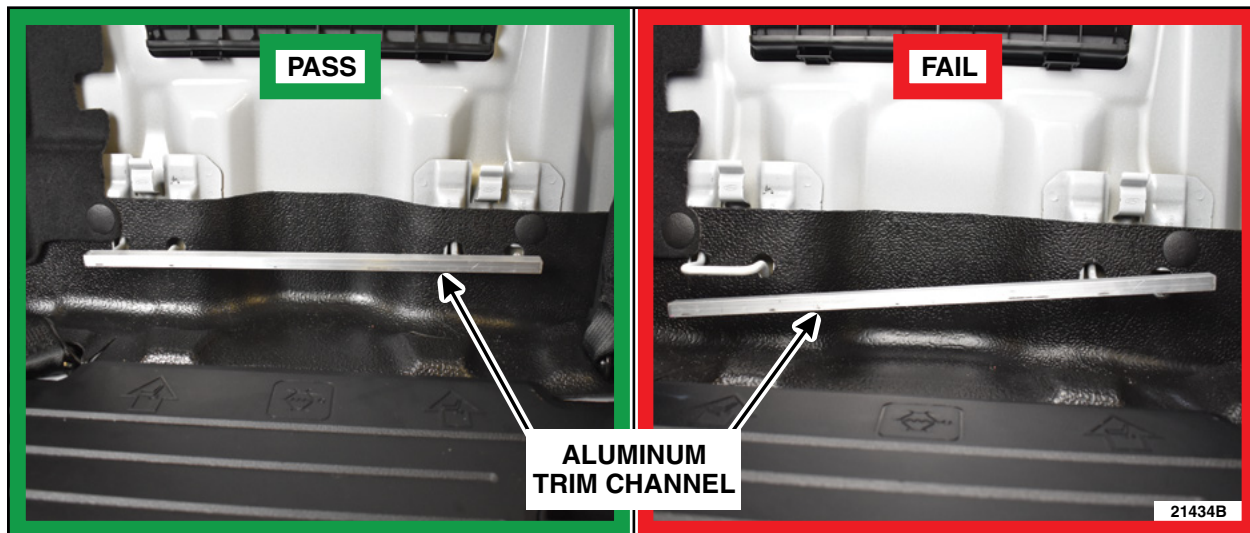

FIGURE 2
2. Remove both the Right Hand (RH) and the Left Hand (LH) rear seat cushions. Please follow the Workshop Manual (WSM) procedures in Section 501-10B.
3. On both sides of the vehicle, place the 1/4 inch (6.35 mm) aluminum trim channel over the child restraint anchors. If the aluminum trim channel fits over both of the child restraint anchors that side of the vehicle is considered a pass. See Figure 2. Did either rear RH or LH child restraint anchors fail?